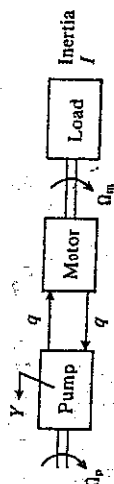

Figure A.24
A.2.28 A closed loop hydraulic system consists of a variable-displacement pump as shown diagrammatically in figure A.24. Show that